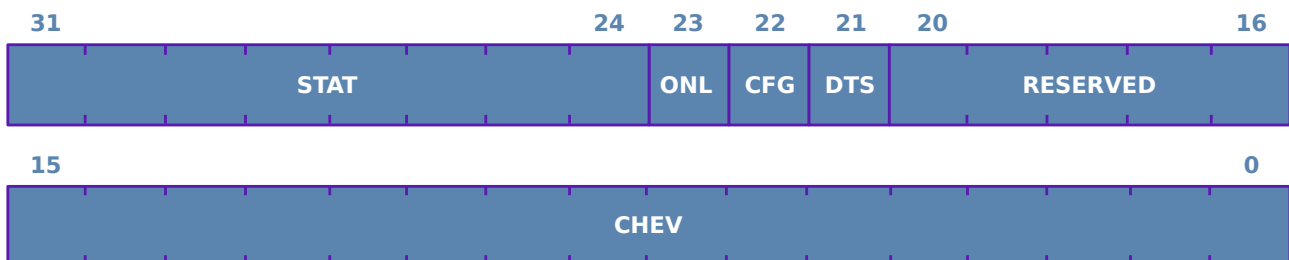

Figure 15: System status flags
- Format: System status, as shown on figure 15. The meaning of each field is as follows:
- MW\_ST\_INIT (0): System is starting.
- MW\_ST\_IDLE (1): System is not connected to the AP and waiting for commands.
- MW\_ST\_AP\_JOIN (2): System is joining an Access Point.
- MW\_ST\_SCAN (3): System is performing an AP scan.
- MW\_ST\_READY (4): System is connected to the AP and ready to send/receive data.
- MW\_ST\_TRANSPARENT (5): System is on transparent mode. This state is not likely going to be reported with this command, because while on transparent mode, command interpreter is disabled.